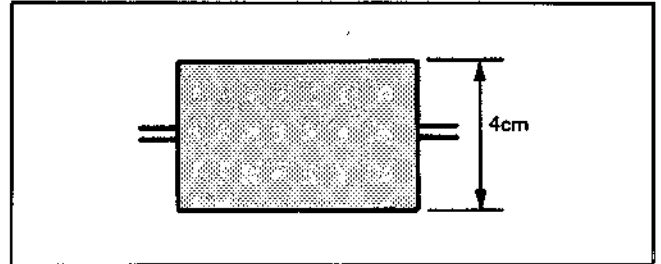

Fig. 4-21 No. 7 Guide Waveform
4) Turn No. 7 guide clockwise and make the RF output waveform exit 4cm. (Fig. 4-21)